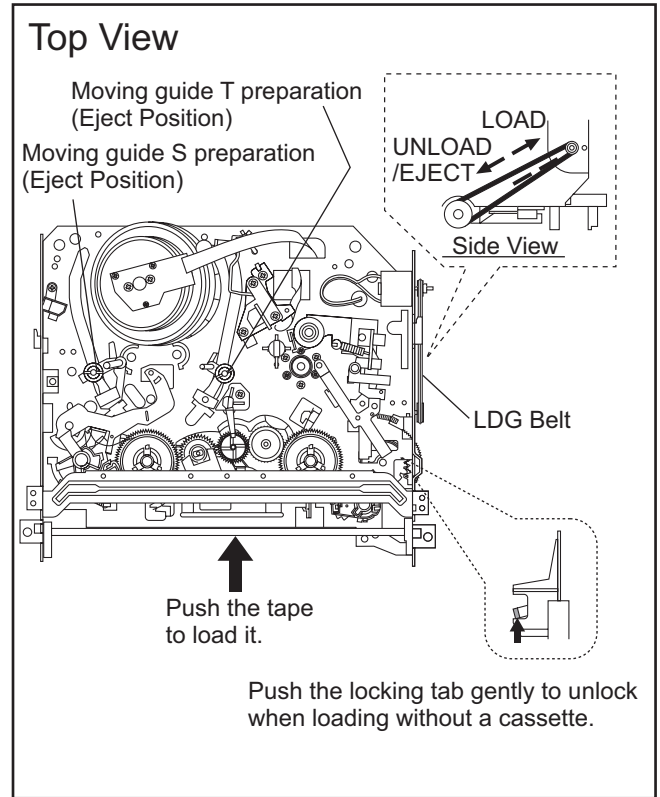

Fig.1
- d) Turn the LDG Belt in the appropriate direction shown in Fig. 1 until the Moving guide preparations come to the Eject Position. Stop turning when the preparations begin clicking or can not be moved further. However, the tape will be left wound around the cylinder.
(2) Method to place the Cassette Holder in the tapeloaded position without a cassette tape
- c) Turn the LDG Belt in the appropriate direction shown in Fig. 1. Release the locking tabs shown in Fig. 1 and continue turning the LDG Belt until the Cassette Holder comes to the tape-loaded position. Allow a minute or two to complete this task.